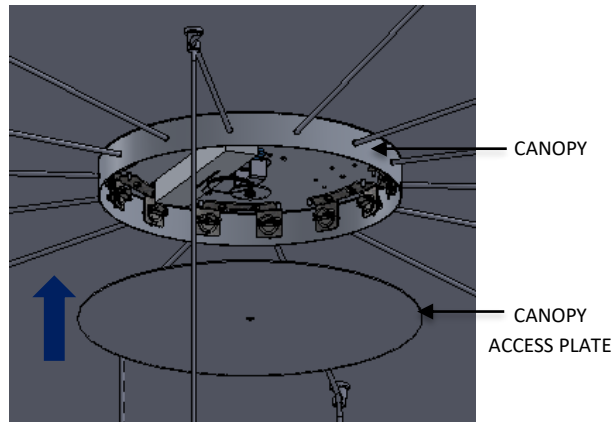

FIG. 20 - FINIAL INSTALLATION
8. Raise up CANOPY LID with CENTER Bracket in the CANOPY and turn clockwise to re-secure the lid to the CANOPY as shown below in FIG. 20. Do not overtighten the lid.